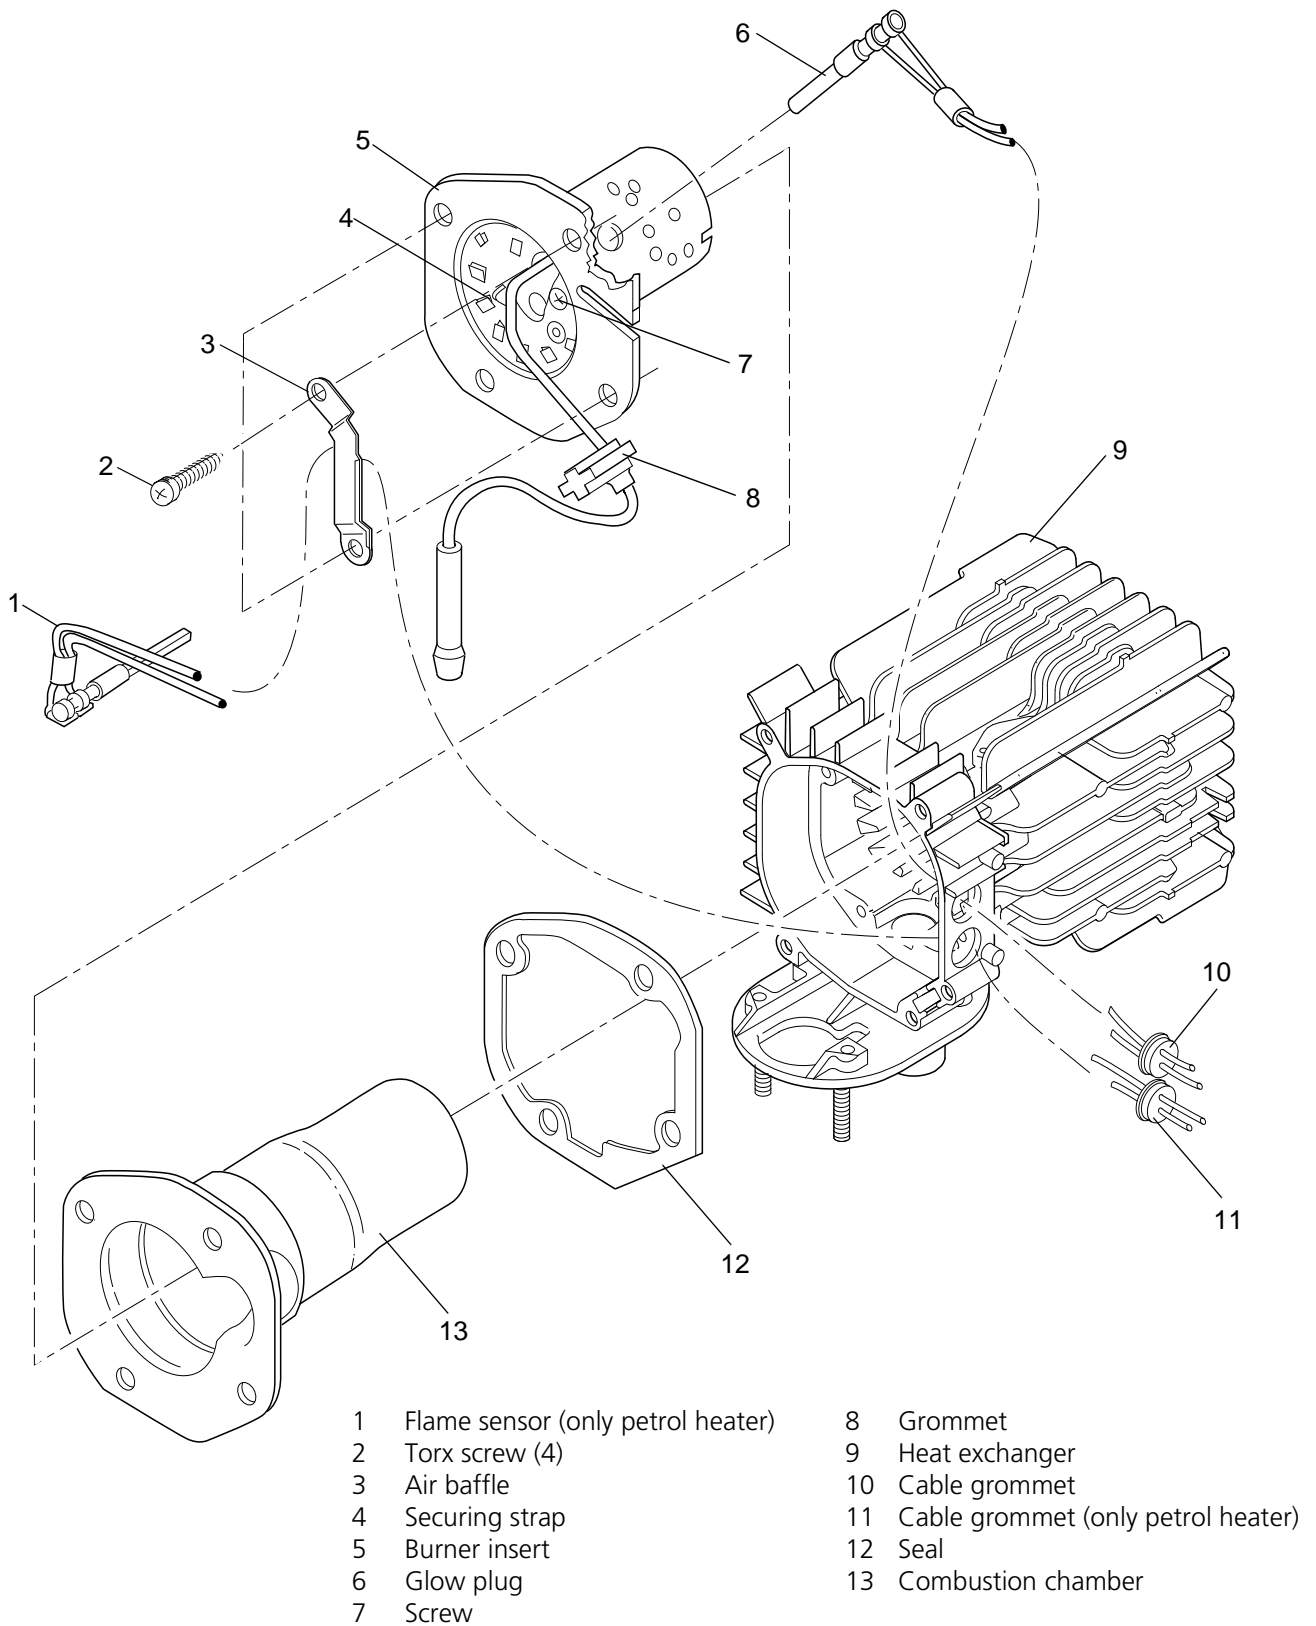

Fig. 904 Change the glow plug, flame sensor, burner insert and heat exchanger
1. Slide the flame sensor (1, Fig. 904) through under the fuel line, guide the connector through the hole in the heat exchanger (9) and press the cable grommet (11) into the heat exchanger (9) from the inside.
2. Guide cable with protective cable sheath through securing strap (4) and mount flame sensor (1) in burner insert (5).
3. Press the securing strap (4) together again.
4. Fasten the air baffle (3) with the screws (2).
5. Tighten the screws (2) to 6 ± 0.6 Nm.
5. Press the cable grommet (10, Fig. 904) out of the heat exchanger (9) toward the inside.
6. Remove the four screws (2) and the air baffle (3).
1. Fit a new seal (12, Fig. 904) into the heat exchanger (9) and bring the combustion pipe (13) into the assembly position.
2. Check that the starting air hole in the burner insert (5) is clear.
8. Remove the burner insert (5, Fig. 904).
9. Remove the combustion pipe (13) and seal (12) from the heat exchanger (9) and dispose of the seal (12) separately.